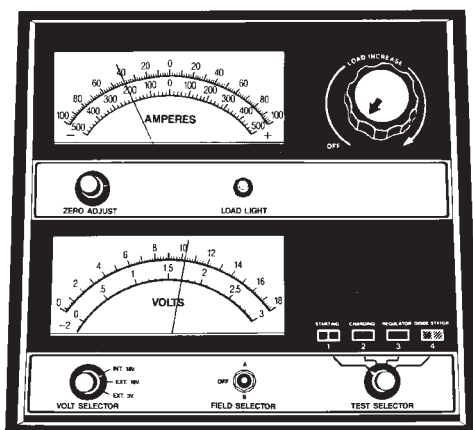

**Fig. 8 Starter Draw Tests**
(3) Verify that all lights and accessories are OFF, and the transmission shift selector is in the PARK. Set parking brake.
(4) Rotate and hold the ignition switch in the START position. Observe the volt-ampere tester (Fig. 8).